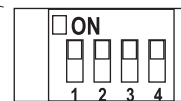

Figure 10b
- **Receiver:** Slide code switches to the same positions as set on your transmitter (Figure 10b).